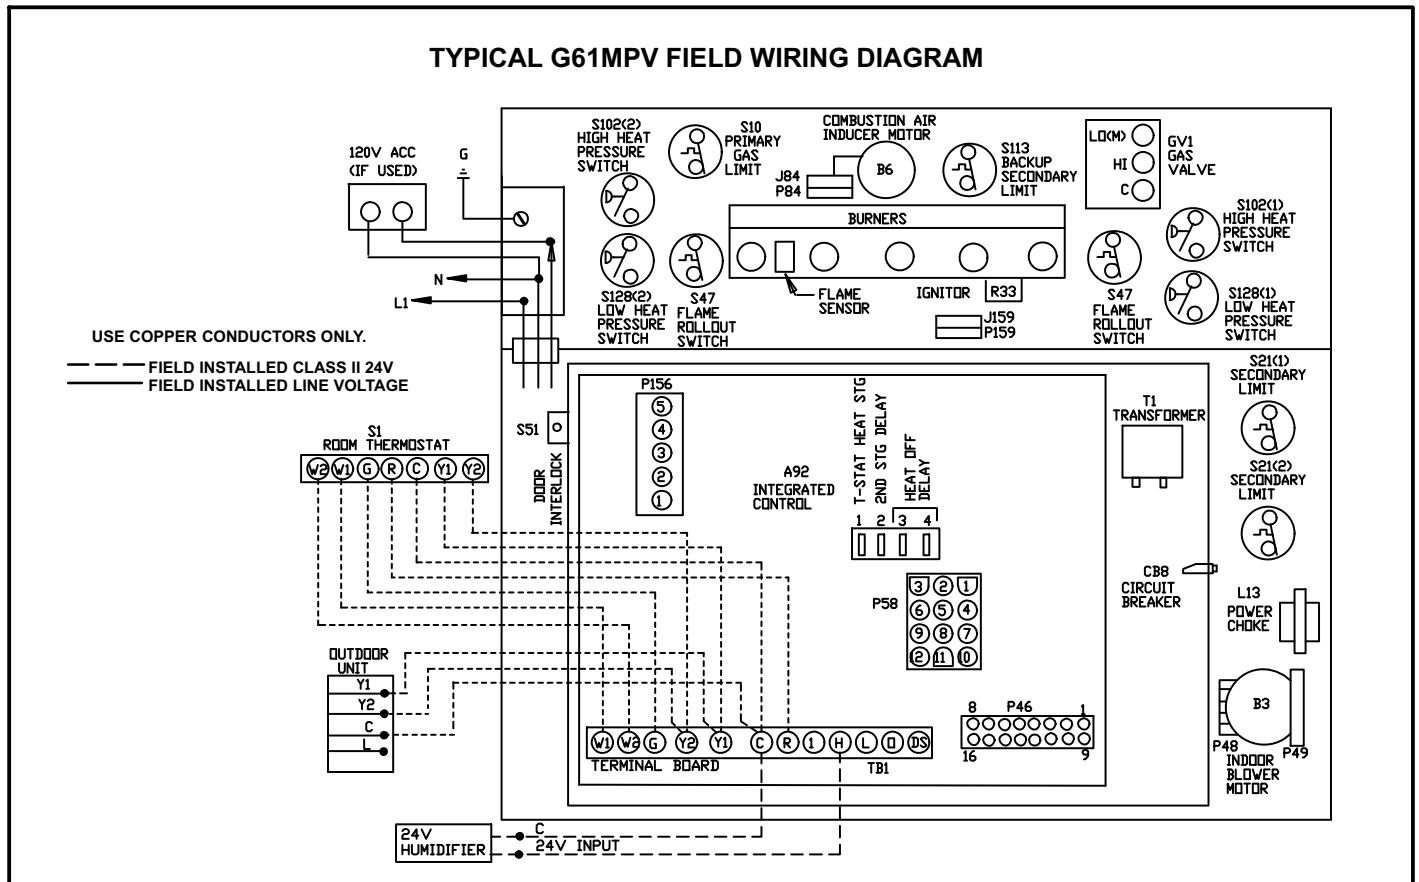
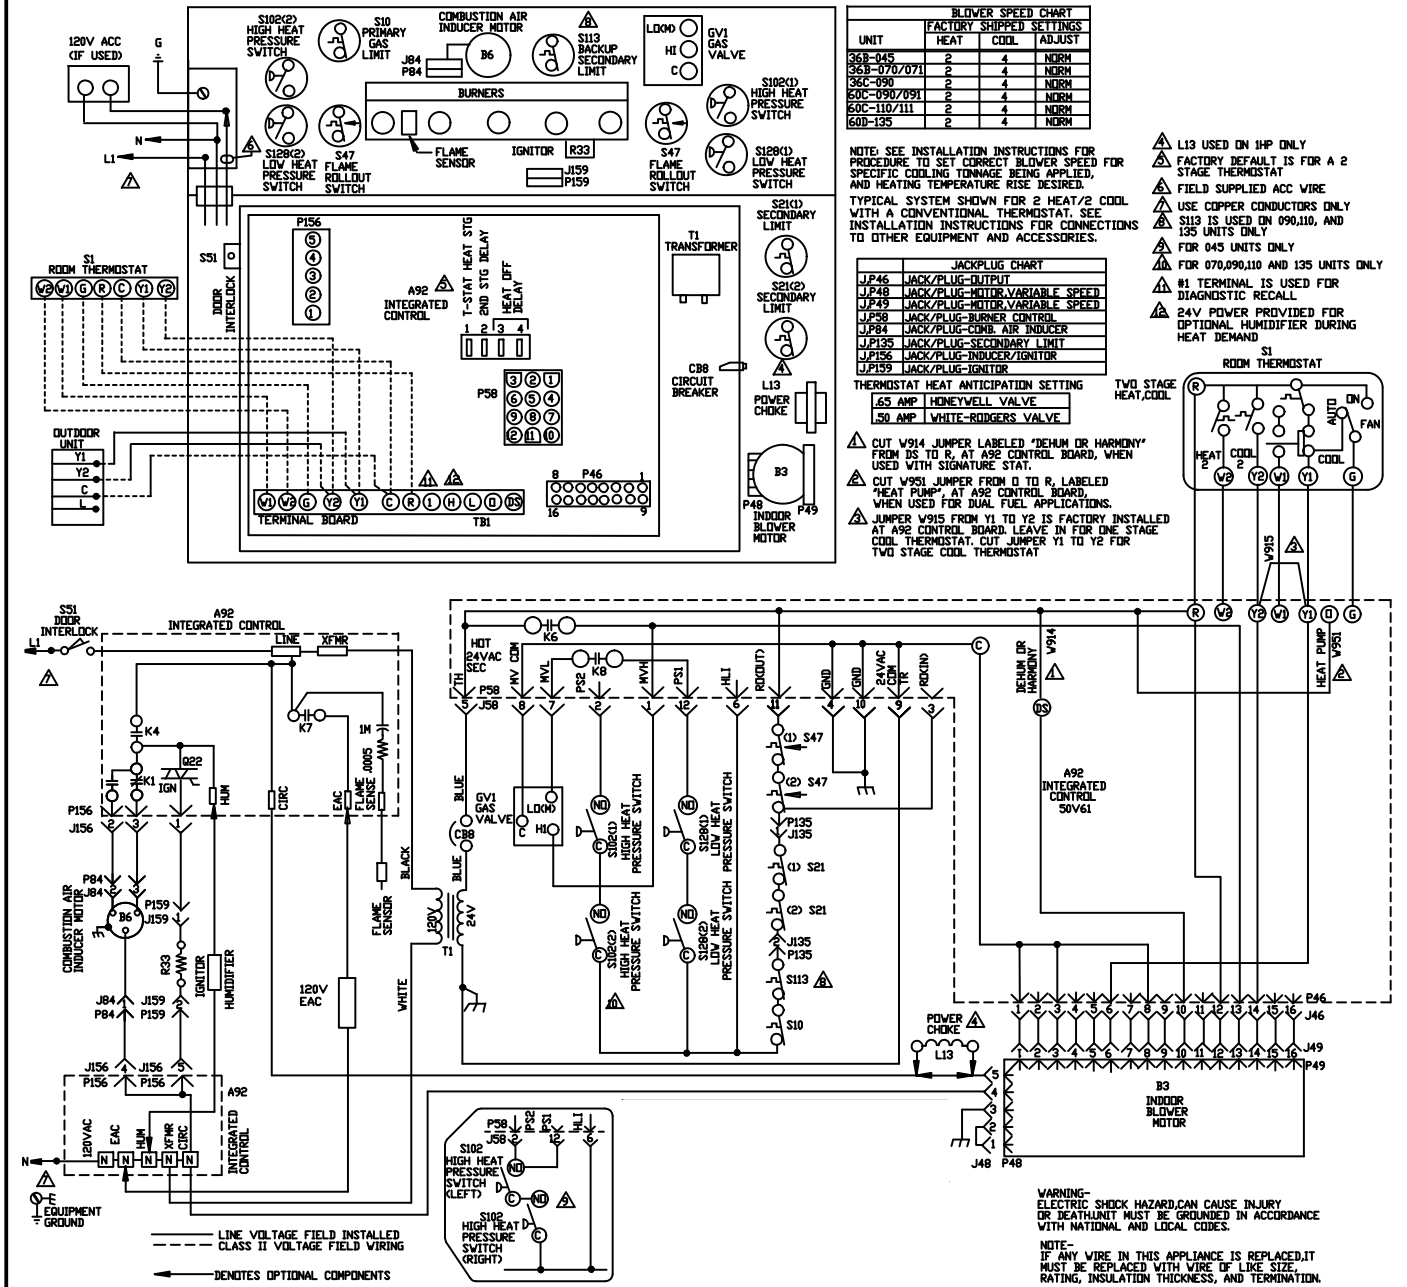

FIGURE 55
FIGURE 58
Refer to figure 55 and table 11 for field wiring and figure 58 for schematic wiring diagram and troubleshooting.
- 5 - Complete the wiring connections to the equipment. Use the provided unit wiring diagram and the field wiring diagram shown in figure 55 and table 11. Use 18-gauge wire or larger that is suitable for Class II rating for thermostat connections.